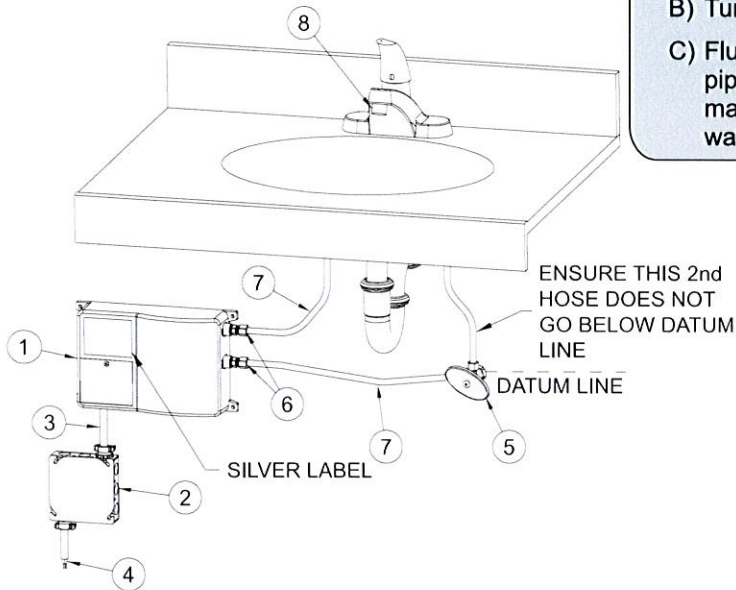

FIGURE 1 INSTALLATION LAYOUT
2. Mount unit horizontally against the wall so the silver label reads correctly (See Figure 1). Use level to ensure unit is level and mount with four screws through the flanges located on each corner using molly anchors or fasteners.
3. Connect plumbing. Use hose with 3/8" compression at cold water inlet and hot water outlet to 3/8" compression faucet inlet connections (See Figure 1).